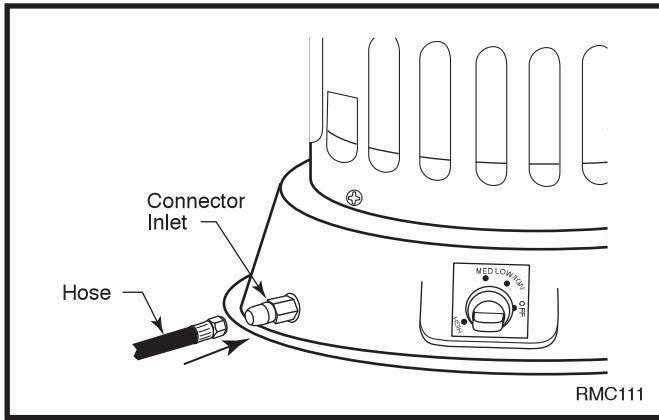

Fig. 6 Hose and connector inlet.
10. Connect hose to the connector inlet. (Fig. 6) Use a wrench to prevent connector inlet on heater from turning as you tighten firmly using a wrench. You must use the regulator supplied with heater even if propane tank has one.